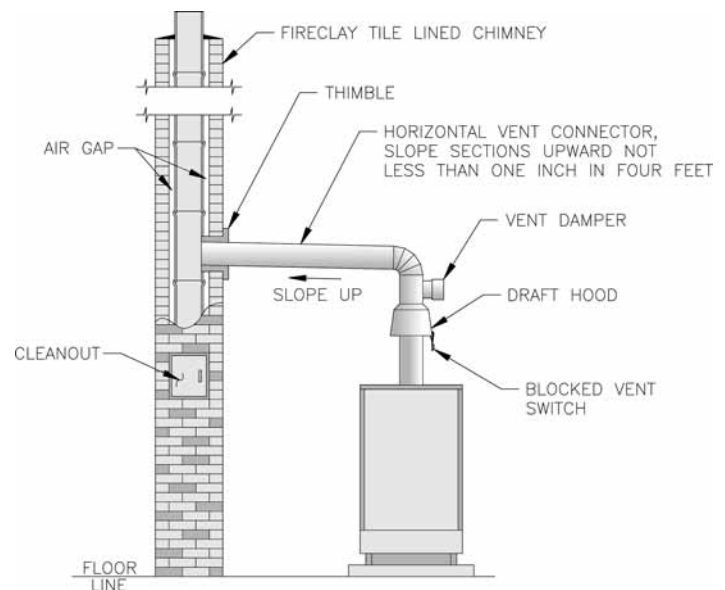

Figure 11: Typical Vent System Installation
F. Install Vent Connector from vent damper to chimney or gas vent. See Figure 11.